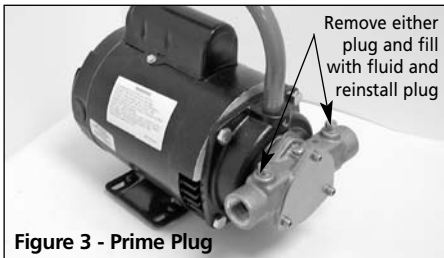

Figure 3 - Prime Plug
1. All pumps must be primed before start-up and filled with fluid (See Figure 3). Never operate a pump unless it is secured to a solid foundation and all safety shields are installed.
- e. All pumps must be primed before start-up and filled with fluid (See Figure 3). Never operate a pump unless it is secured to a solid foundation and all safety shields are installed.